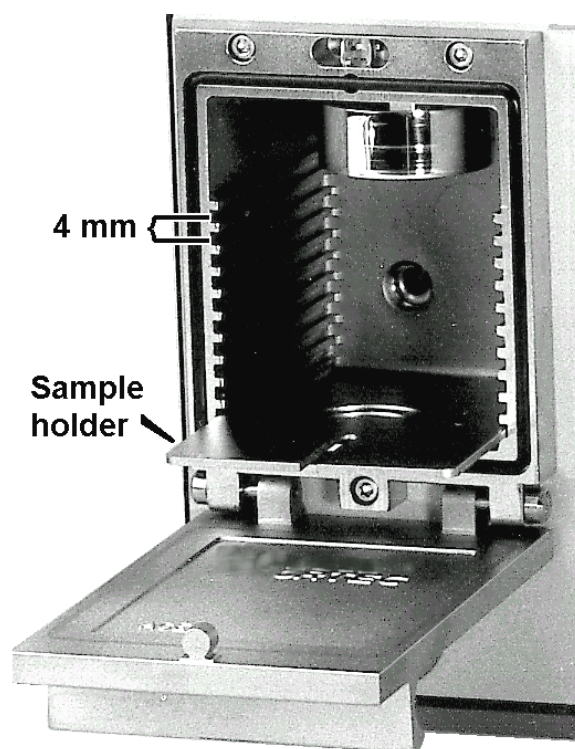

Fig. 2. Open Sample Chamber.
- 1) Once the desired vacuum chamber(s) has been vented, open the door. Figure 2 shows an open sample chamber with a detector, a sample holder, and the series of slots that allow you to adjust the sample-to-detector distance in 4 mm increments.